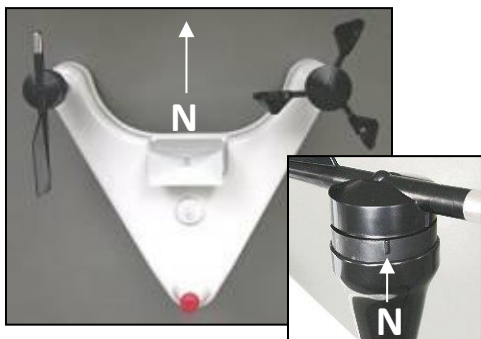

Figure 25: Accurate wind direction measurements require the reference line on the wind direction sensor to be aligned with Magnetic North.
- As a reference, use a magnetic compass (supplied with the optional Tripod Installation Kit) and rotate the WeatherHawk assembly until the reference line on the wind direction sensor is aligned with Magnetic North (Figure 25).